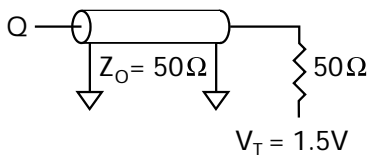
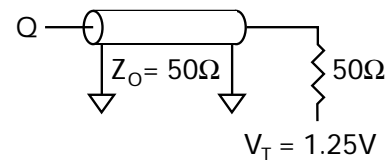

Figure 1
Figure 3
1. Test conditions as specified with the output loading shown in Figure 1 for 3.3V I/O ( $V_{DDQ} = +3.3\text{V} +0.3\text{V}/-0.165\text{V}$ ) and Figure 3 for 2.5V I/O ( $V_{DDQ} = +2.5\text{V} +0.4\text{V}/-0.125\text{V}$ ) unless otherwise noted.
Output load .....	See Figures 1 and 2
Output load .....	See Figures 3 and 4